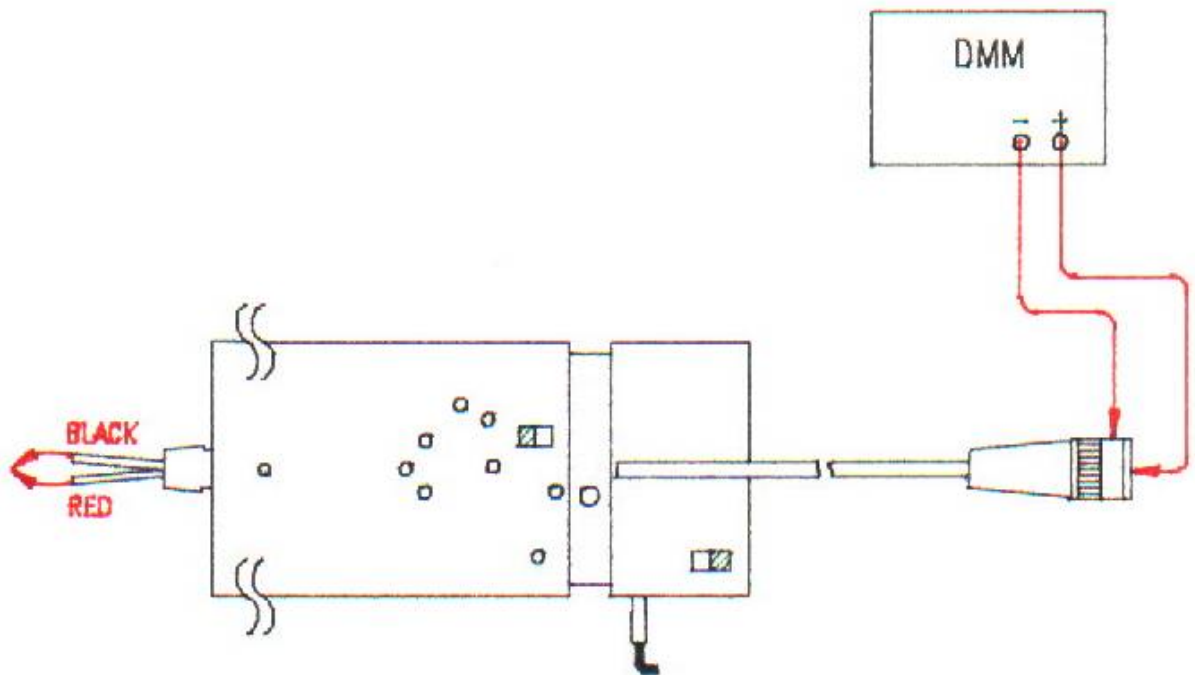

Fig. 7
- a. Referring to Fig. 7, connect both input lines together.